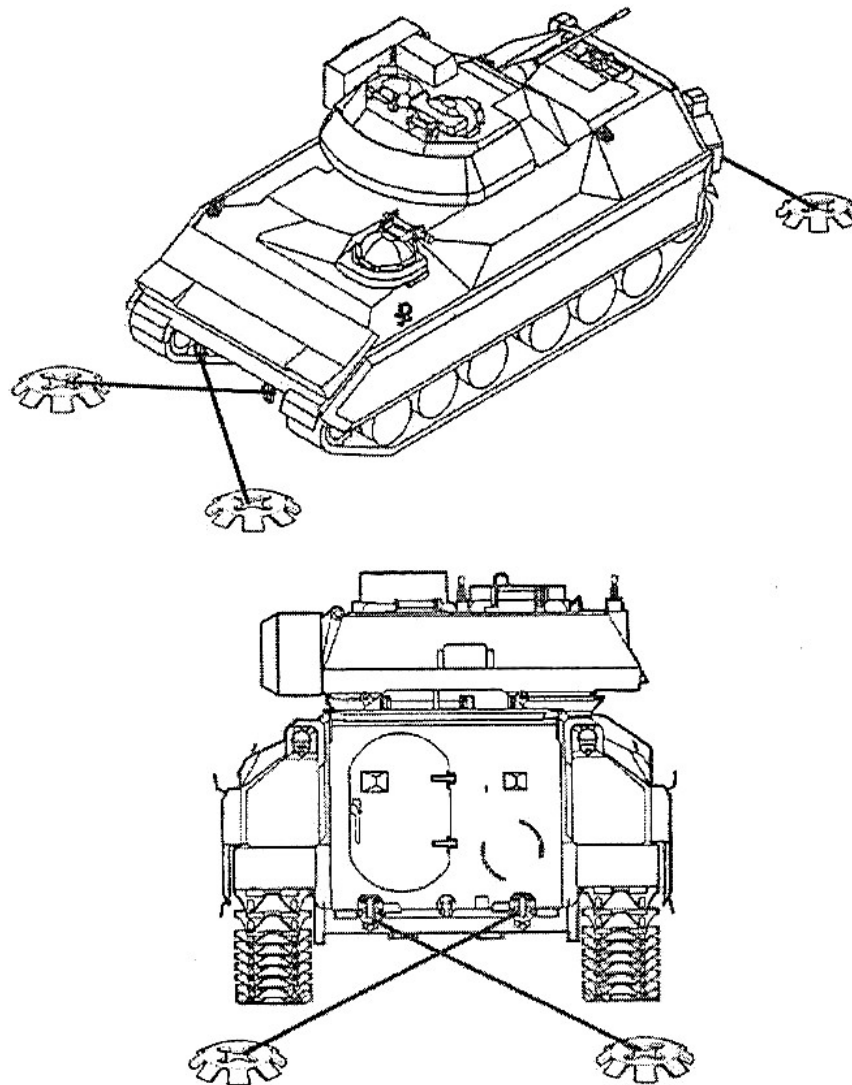

Figure 3-157
- c. Issue guidance that the lashing requirements for wheeled vehicles are based on a universal four-lashing pattern (two fore and two aft) (see Figure 3-157).